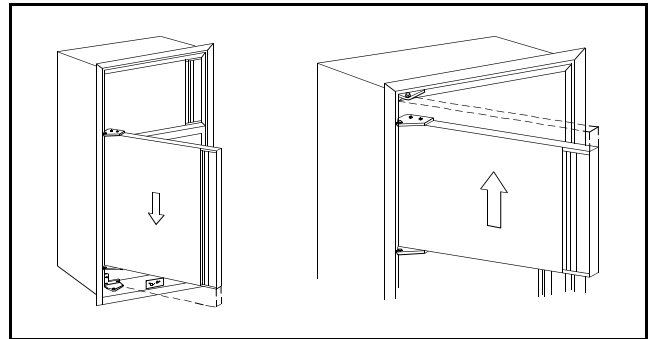

Figure 12
- Turn the door over so that the end previously at the bottom is now at the top. Relocate the bottom of the door on the bottom hinge pin shoulder. Close door and align holes in top hinge brackets. The magnetic gasket will hold the door in place. Before reinstalling the top door, check to insure that the spacer is in place. (See Figures 12 and 14C)
- Reposition the upper door in a similar manner as described in Step #9, except the top of the door must be engaged into the hinge pin shoulder before setting the door in place. (See Figure 12)